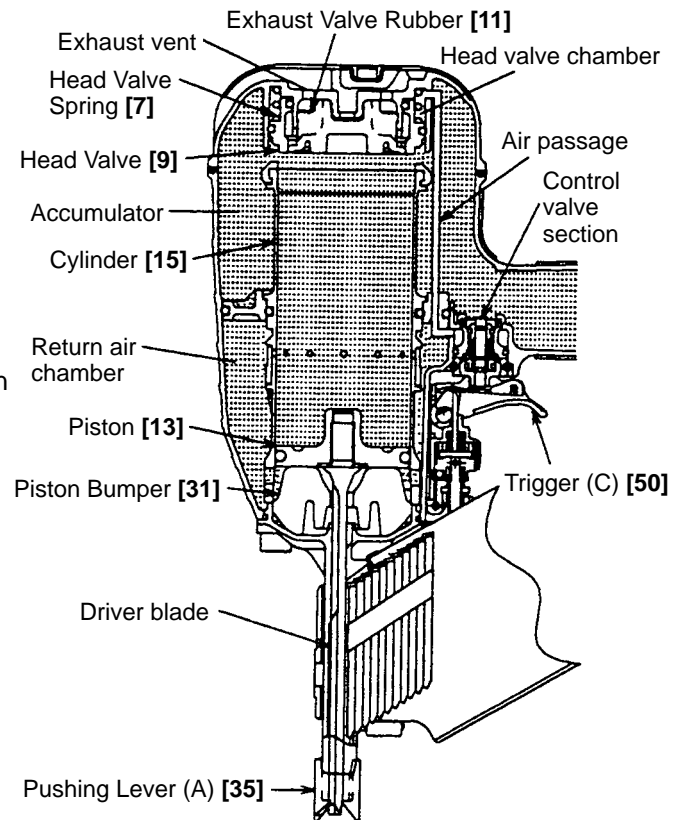
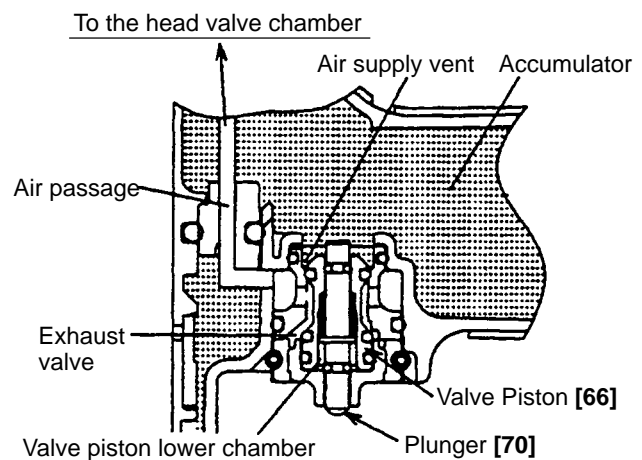

Fig. 6
Fig. 7 Control valve section
(3) During return (See Fig. 6 and Fig. 7.)
- 1) Immediately after driving the first nail, the control valve should be as shown in Fig. 7.
Because of this, compressed air does not flow into the valve piston lower chamber, and Valve Piston [66] remains in the lowered position. Accordingly, the Piston [13] remains in the lowered position as shown in Fig. 6.
- 1) Immediately after the first nail is driven, the control valve should be as shown in Fig. 7.